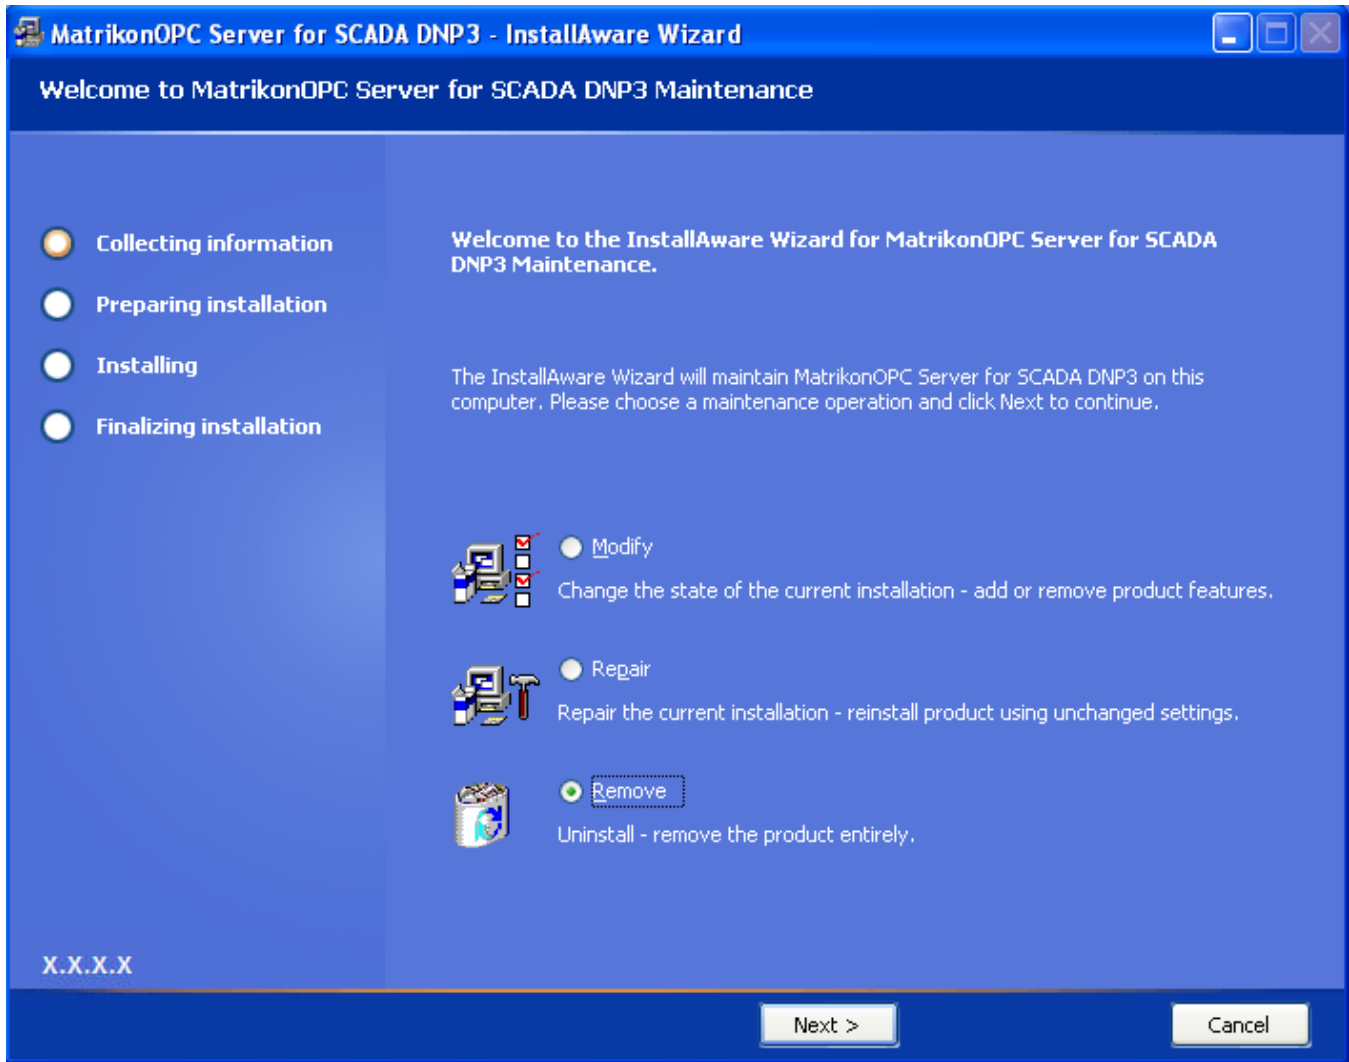

Figure 57 - Welcome to the MatrikonOPC Server for SCADA DNP3 Maintenance Screen
6. The **MatrikonOPC Server for SCADA DNP3 – InstallAware Wizard** appears, and the **Welcome to MatrikonOPC Server for SCADA DNP3 Maintenance** screen (Figure 57) is displayed.